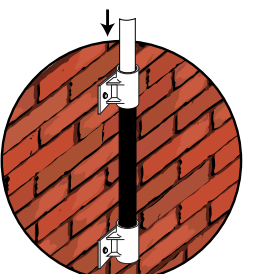

Fig 7,
8. Mount the pole into the ground socket (see Fig 7).